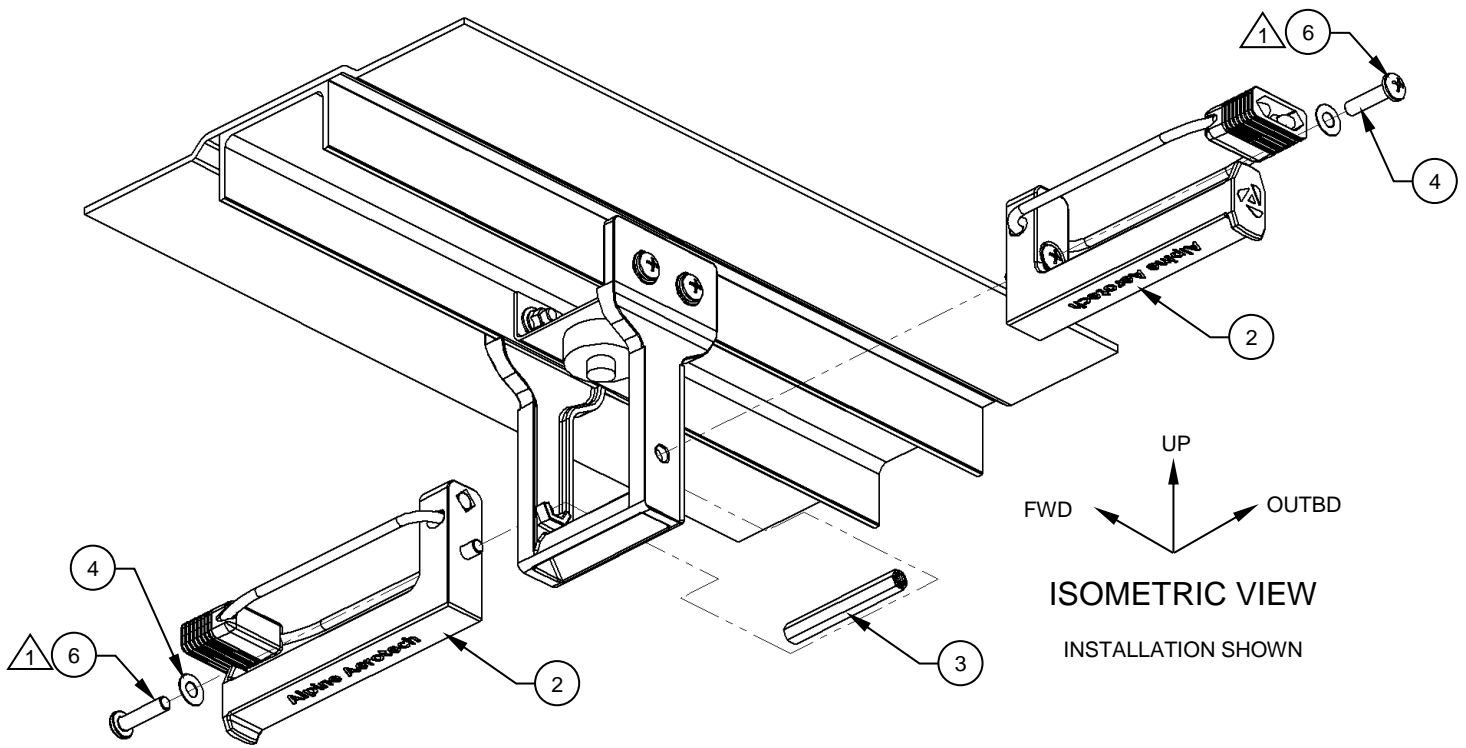

Figure 4
7. Install 2X Single Lug Hanger #10, Assy's, Item 2, using, 1X Female Threaded Hex Standoff, Item 3, 2X Screw Machine, Detail, Item 6, and 2X Washer, Flat, Steel, Item 4. See Figure 4.